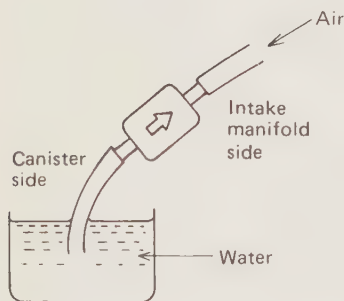

Fig. 3.30. Testing the purge check valve
- 2 Test the purge check valve (49 States (high altitude) and California models) to ensure that there is no air flow from the intake manifold side to the canister. Immerse the valve in water, as shown in Fig. 3.30 and check for air leaks. Connect a manometer to the check valve and measure the pressure at which the valve starts to open. Blow clean compressed air in the direction of the arrow mark on the check valve, it should start to open between 0.2 and 0.59 in Hg (2 and 15 mm). If